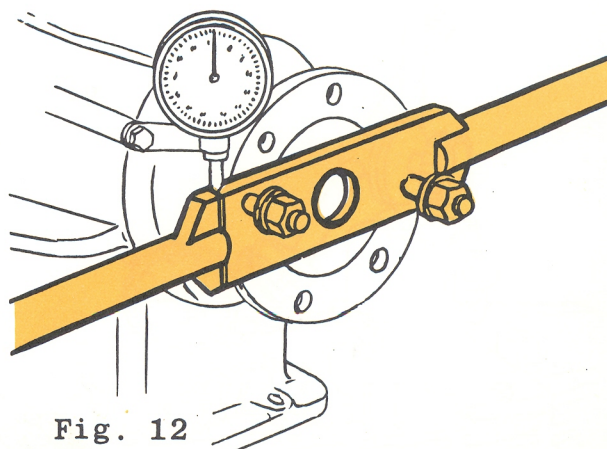

Fig. 12
**13** Have the stylus of a dial gauge, previously mounted to a magnetic support, resting on the edge of the plate of tool C.5.0100 at the reference slot (see fig.12) and pre-set the gauge needle to about one millimetre.